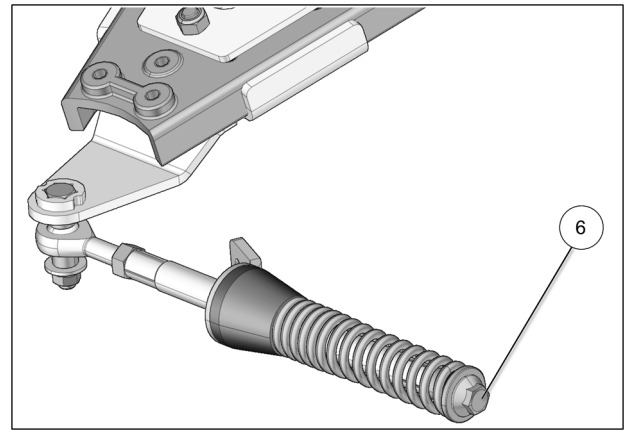

Fig. 21
10. Verify that spring assembly bolt (6) is tightened to the recommended torque specification: 75 N•m [55 lb•ft]. Refer to Fig. 21